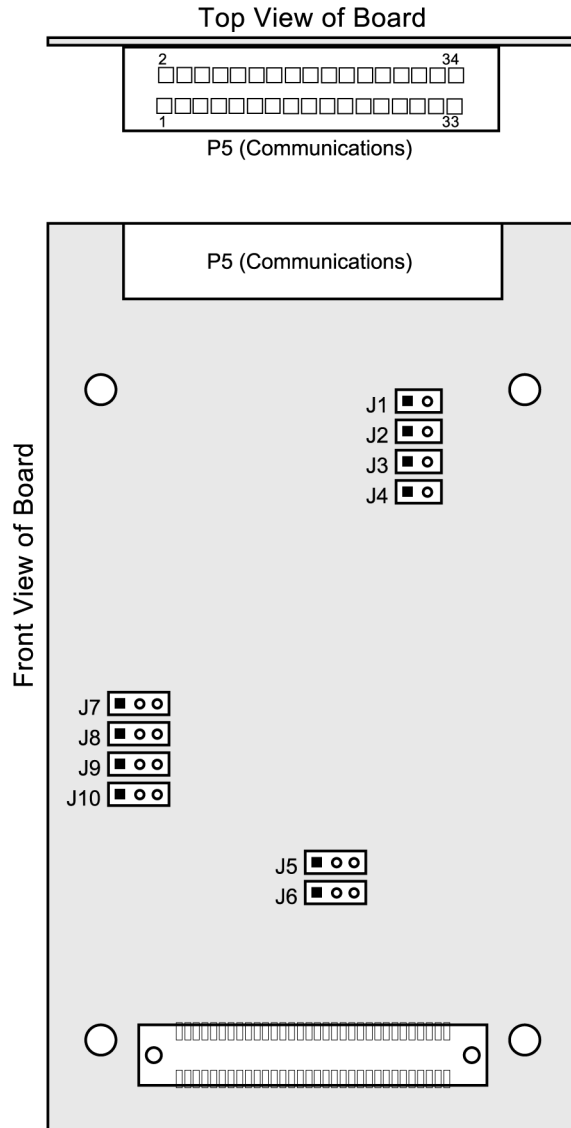

Figure 2 ACRCOMM Module—PCI version
| Figure 2 ACRCOMM Module—PCI version .....                         | 5  |
**Note:** In Figure 2, the black square on the jumpers indicates pin 1.
These jumpers provide termination resistors for the RS-422 signals. For jumper locations, see Figure 2 on page 5.
When the COM1/2 Startup Mode parameters (bit 15) are set to one, the Autobaud Detect Jumper (J7) defines the autobaud detect function (see Table 5). For jumper locations, see Figure 2 on page 5.
The following diagram shows the connections for the 3 communications ports. For jumper locations, see Figure 2 on page 5.